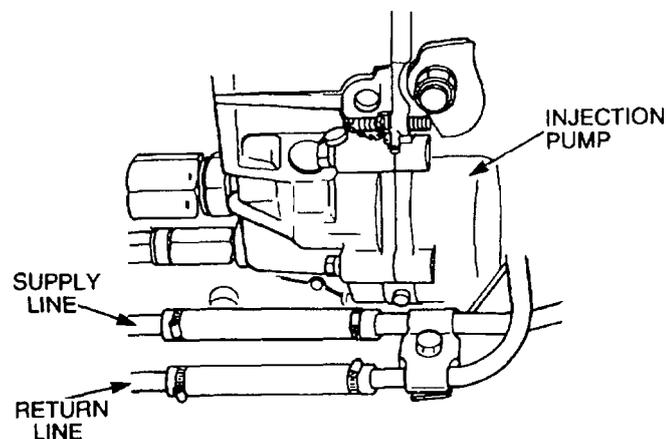

Figure 6 Fuel Lines
- r. Disconnect the fuel supply and fuel return lines at the rubber hoses on the fuel injection pump (Figure 6).
- v.** Remove the plastic plugs and connect the fuel supply and fuel return lines at the rubber hoses on the fuel injection pump (Figure 6).